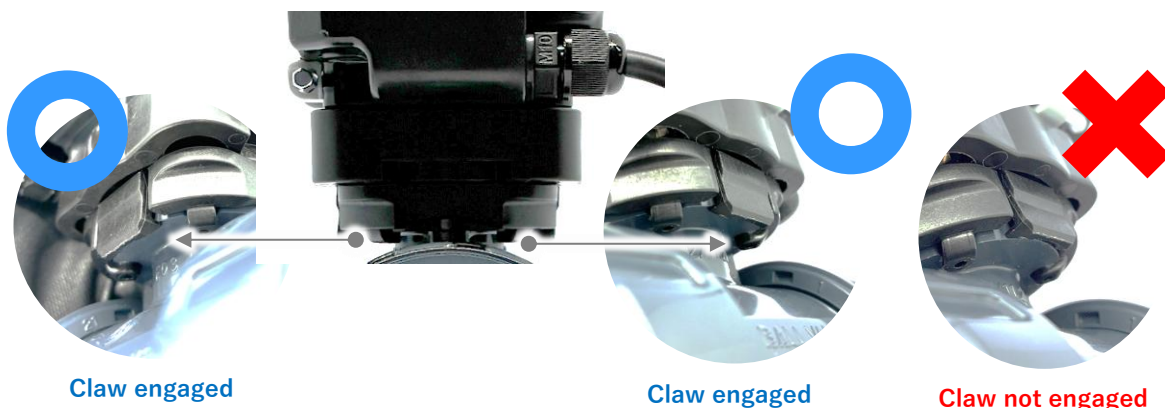

Figure 8.2-2
- Confirm that both claws are fully engaged (**Figure 8.2-2**).